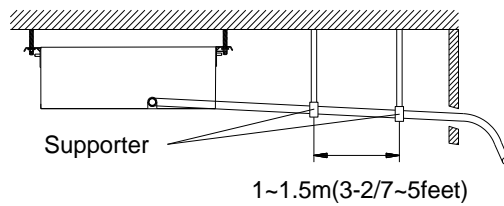

Figure 3-1-9
- (3) When the hose is long, install supporters (Figure 3-1-9).
- (4) Always use the drain hose which has been insulated properly.